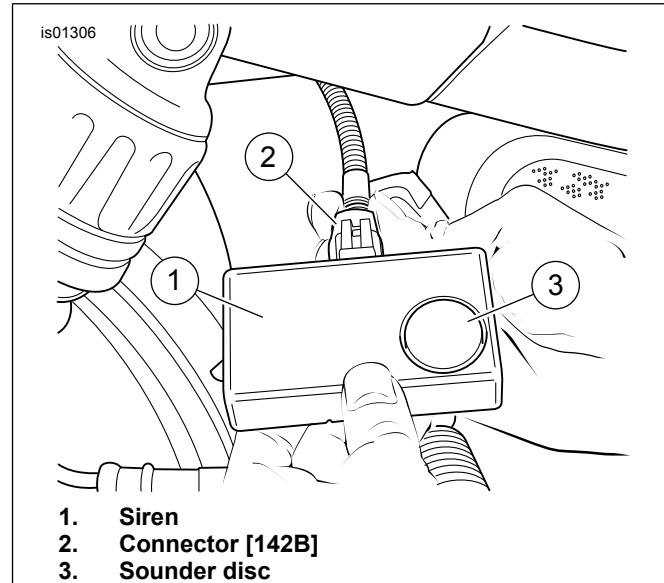

Figure 4. Install Siren Connector (All 2002-2006 VRSC)
6. See Figure 4. Route the siren harness lead out from under the right side of the fender. Get the siren (1) from the kit and insert connector [142B] (2) into the siren receptacle until the connector latches securely.